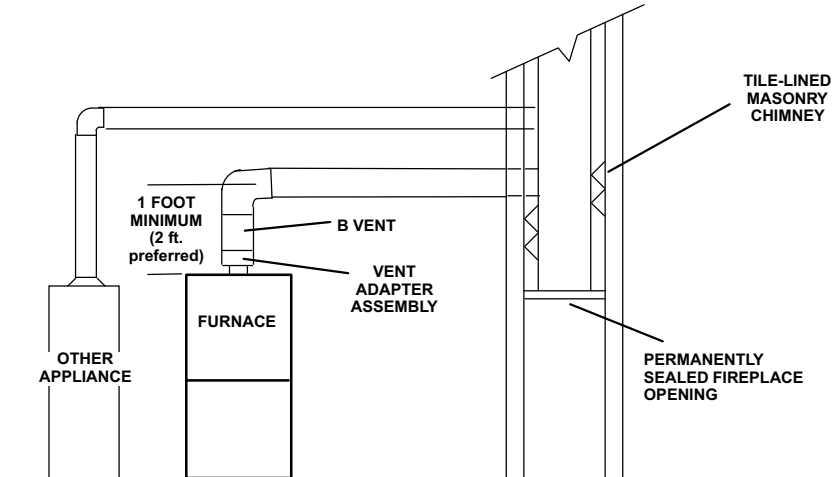

FIGURE 6
- 7 - Use three field-provided self-drilling screws to secure the double-walled B-vent to the top of the vent adapter assembly. Drive one self-drilling screw through the front and one through each side. Route the vent to the masonry chimney using the shortest possible route. If an elbow is required to route the vent connector to the chimney, it must be installed at least 1 ft. above the furnace vent outlet. A 2 ft. clearance before the first elbow is preferable. See figure 6.